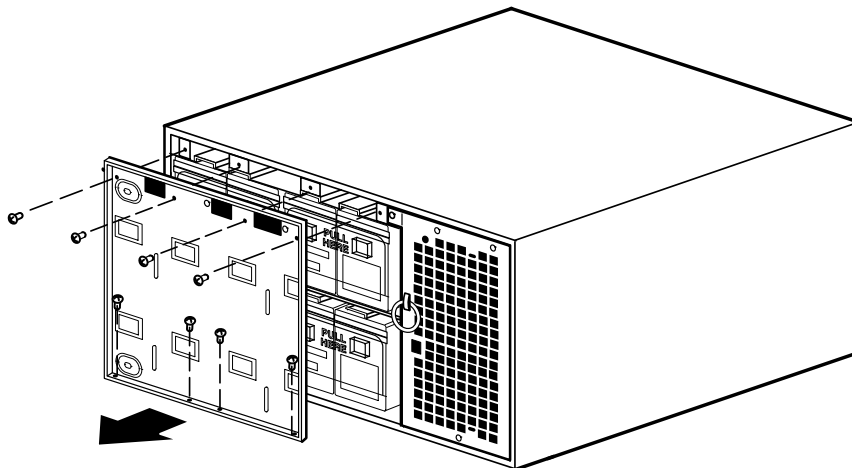

Figure 83. Removing the UPS Battery Cover Plate
- Remove the eight screws on the battery cover plate and retain. Remove the plate. See Figure 83.
10. Remove the eight screws on the battery cover plate and retain. Remove the plate. See a similar removal in Figure 83 on page 122.